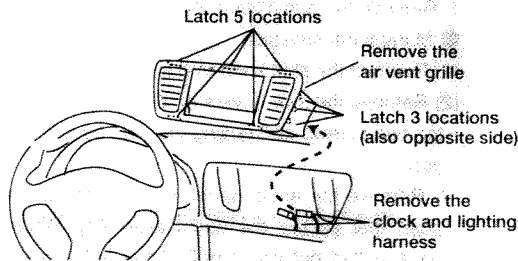

Figure 5-2
2. Remove the air vent grille assembly including the center pocket, pry at latch locations. (Figure 5-2)